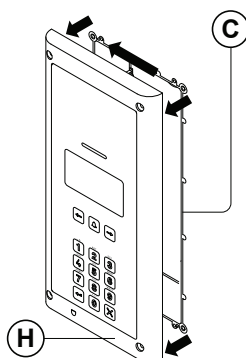

Fig. 66
7. Next close in the front support frame (H) and then pull it back from the flush box (C) while moving it slightly to the left, following the guide arrows, as shown in **Fig.66**;